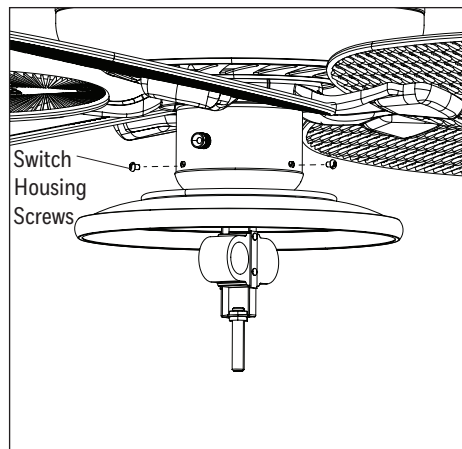

Figure 5.8
- Attach the switch housing cap to the switch housing using the previously removed switch housing screws (Figure 5.8).